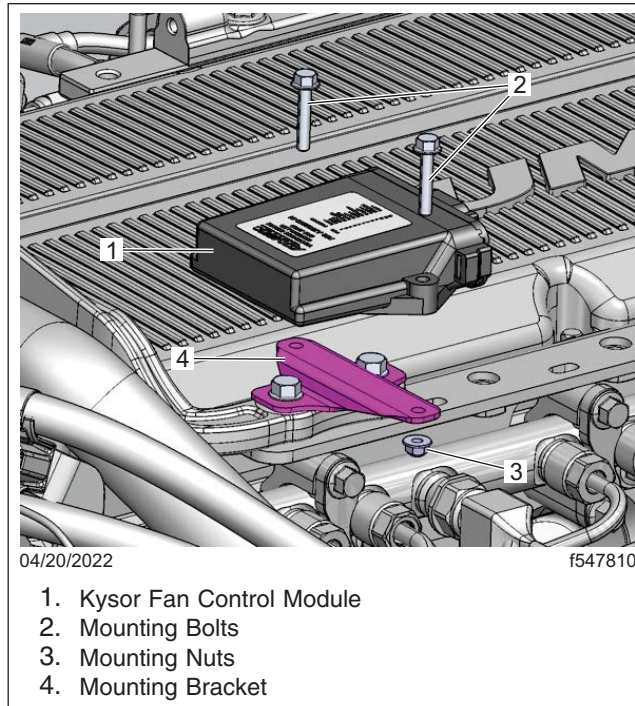

Fig. 2, Kysor Fan Control Module Removal
5. Remove the two fasteners that attach the Kysor fan control module to the mounting bracket, then remove the fan control module from the vehicle, and discard it. See Fig. 2.